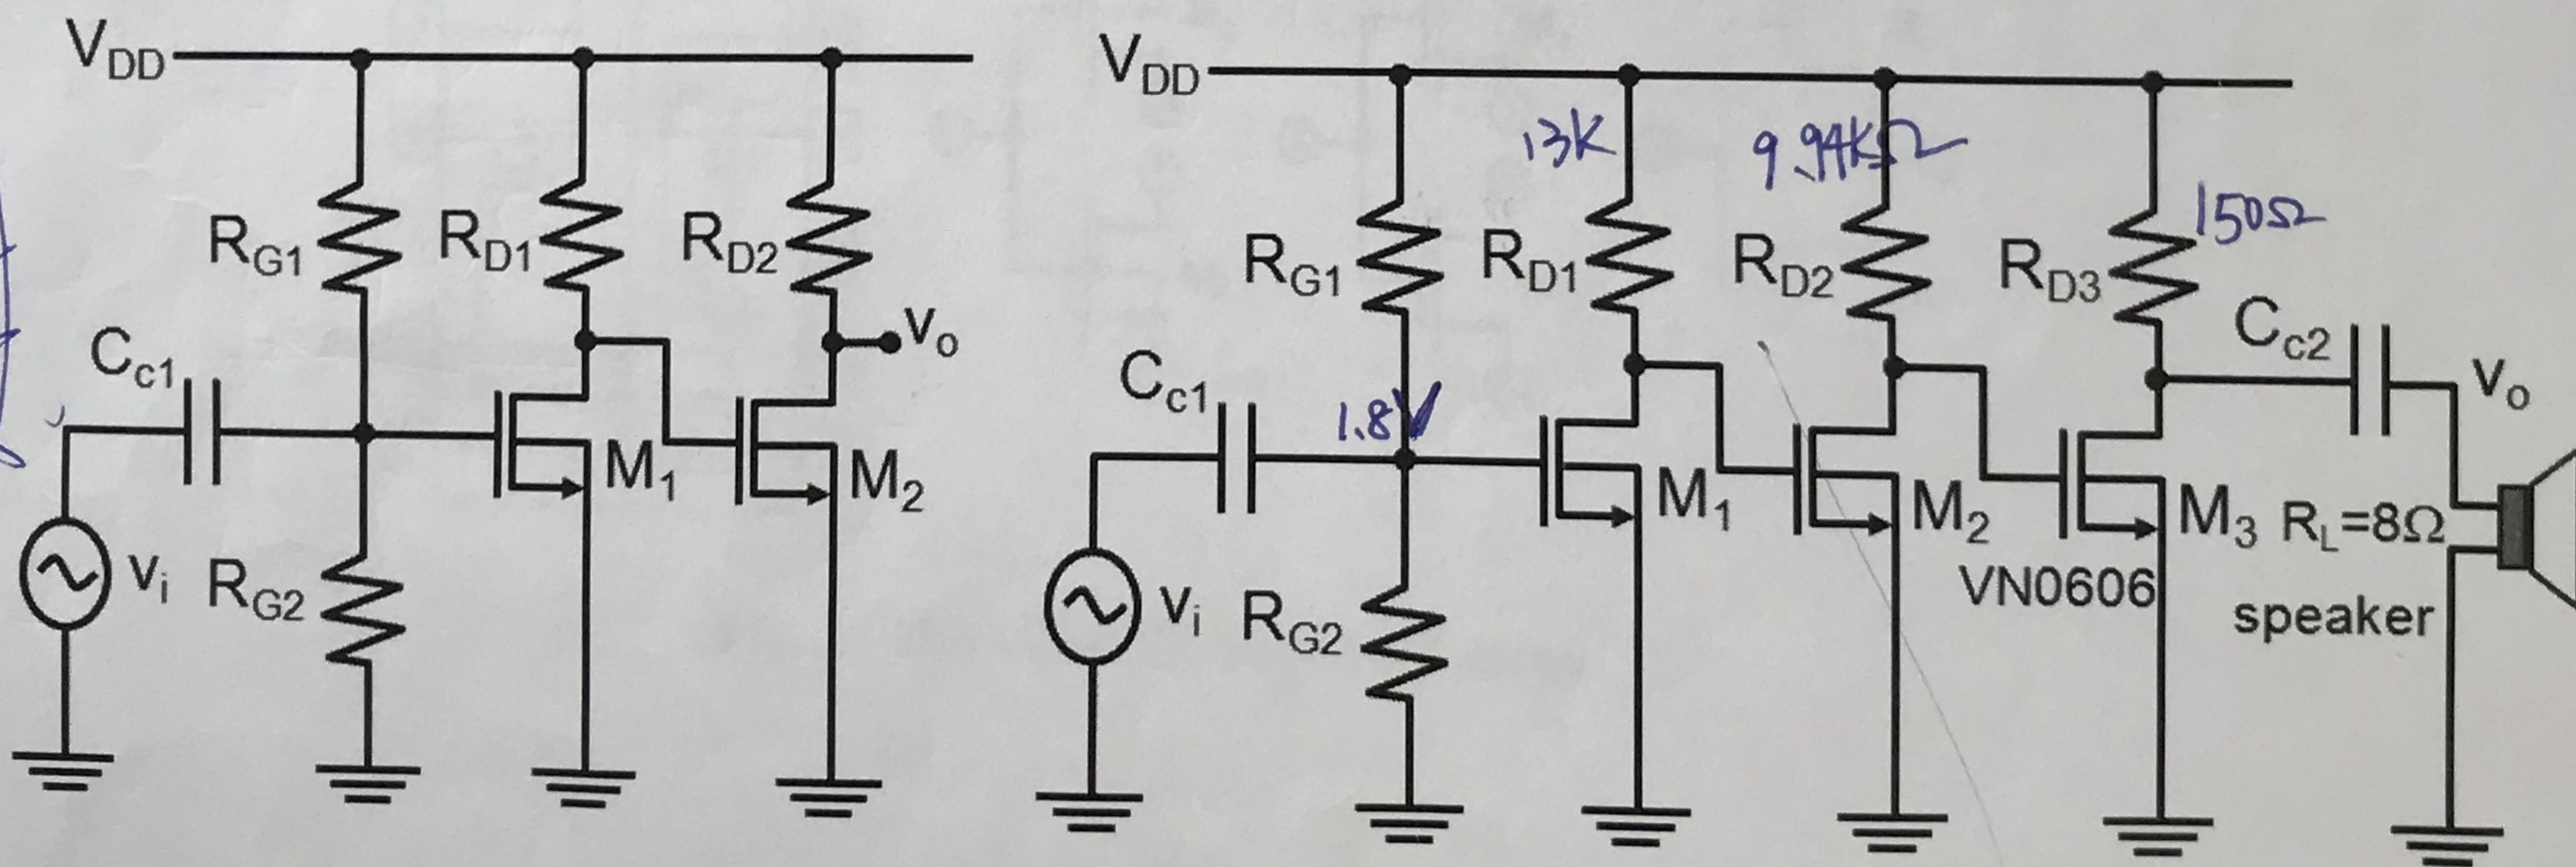

Fig. 6: (a) A cascade two-stage CS amplifier. (b) The complete speaker driving circuit.
- You are required to build a speaker driving circuit using a cascade three-stage common-source amplifier as shown in Fig. 6(b). You will have to use the CD4007UB MOSFET array and the power transistor VN0606 to build the first two stages and the output stage, respectively. The first two-stage amplifier is shown in Fig. 6(a). Based on the experience obtained in Part I, please design the bias point of M1 through R_{G1} and R_{G2} , and design the load resistors R_{D1} and R_{D2} to have a combined gain of at least 50 (V/V) for the first two stages. Set the power supply voltage to 5.0 V. Perform hand calculation and compare with the measured results. Check if the upper -3dB frequency is larger than 20 kHz.
2. You are advised to extract the VN0606 transistor model (e.g. threshold voltage) by $i-v$ measurements as performed in Lab 6, in order to design the last stage of the speaker driving circuit as shown in Fig. 6(b).